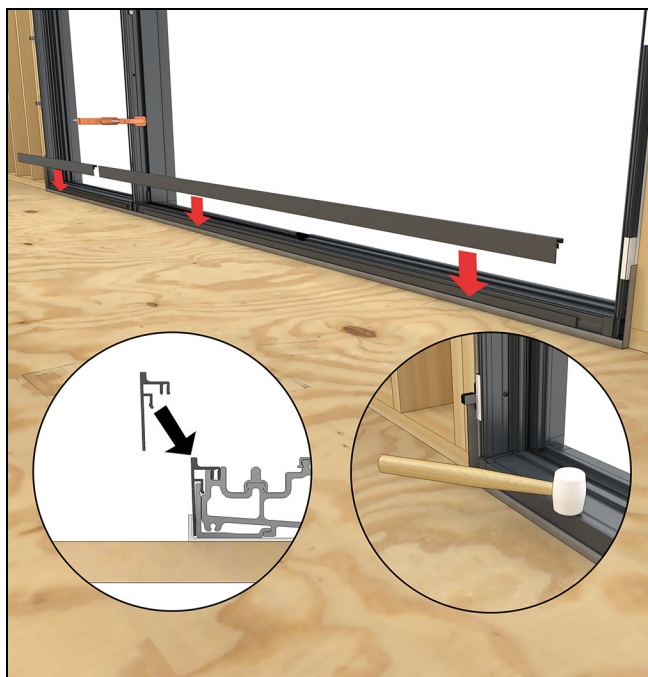

Figure 33
6. Install the interior sill liner. Seat in place with a rubber mallet. See Figure 33.